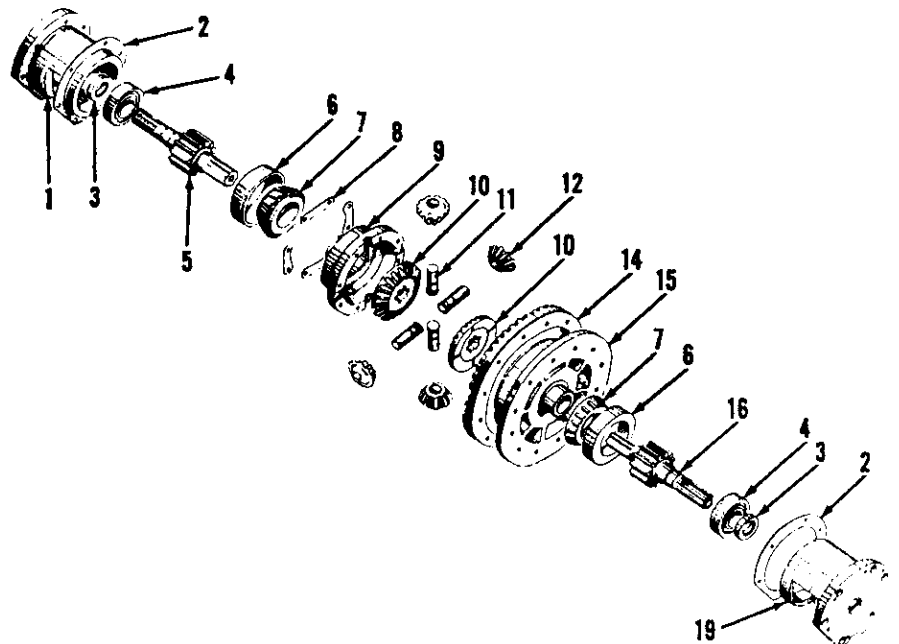

Fig. 115—Exploded view of differential, bull pinion shafts and associated parts. Shims (2) control carrier bearing preload and gear backlash adjustments.
169. **DIFFERENTIAL BEARING PRELOAD.** Prior to making either the mesh or backlash adjustments, the preload on the differential carrier bearings should be established. To adjust the taper roller bearings (7—Fig. 115), first install more than enough shims (2) under each of the differential bearing cages so that differential has a slight amount of end play and make certain there is some backlash between the ring gear and pinion. Wind a cord around the machined diameter of left differential case half, attach spring scale to end of cord and check the amount of pull required to keep the differential rolling once it has started. Record this reading.
171. **BACKLASH ADJUSTMENT.** After the carrier bearings are adjusted as outlined in paragraph 169, and the mesh position, adjusted as outlined in paragraph 170, the backlash can be adjusted as follows: Transfer shims (2—Fig. 115) from under one bearing cage to the other to provide correct backlash between teeth of the main drive bevel pinion and bevel ring gear. The backlash value will be etched on the outer machined face of the ring gear and may vary between gear sets. To decrease backlash, remove shim, or shims, from cage on bevel ring gear side of housing and install same under cage on opposite side. Only transfer shims, do not remove shims or the previously determine carrier bearing adjustment will be changed.
174. To inspect and/or overhaul removed differential, straighten lock plates (8—Fig. 115), unbolt and separate the differential case halves. Pinion shafts (11) can be driven off pins at this time. Any further disassembly and/or overhaul is obvious after an examination of the unit.